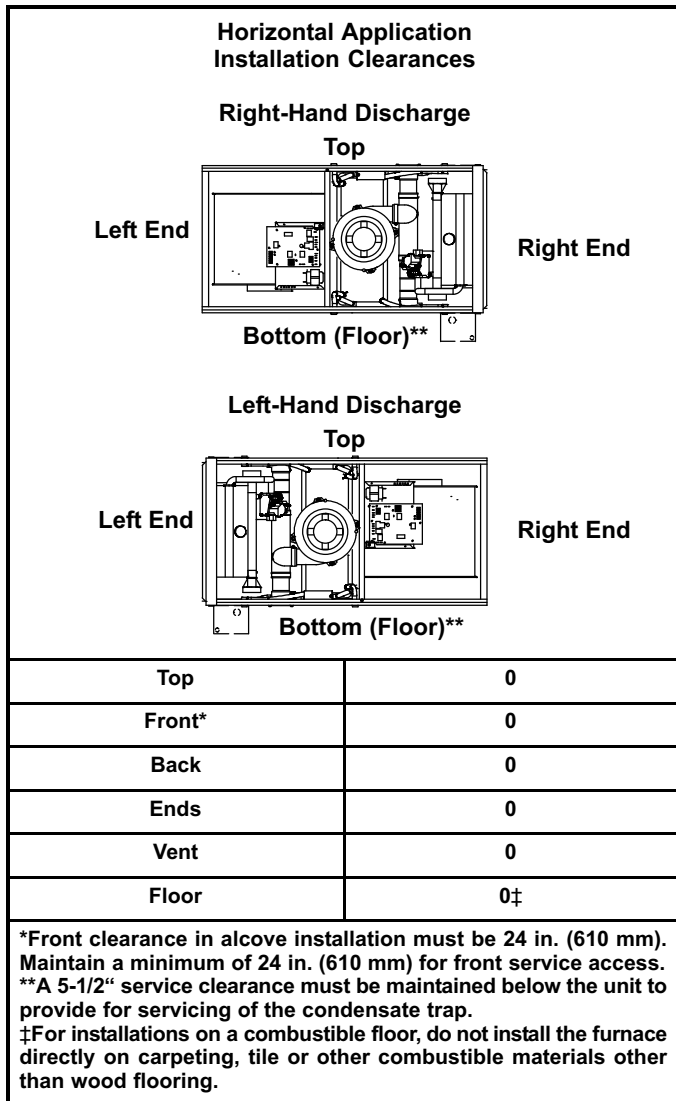

FIGURE 17
Refer to figure 17 for clearances in horizontal applications.
- 1 - Select location for unit keeping in mind service and other necessary clearances. See figure 17.